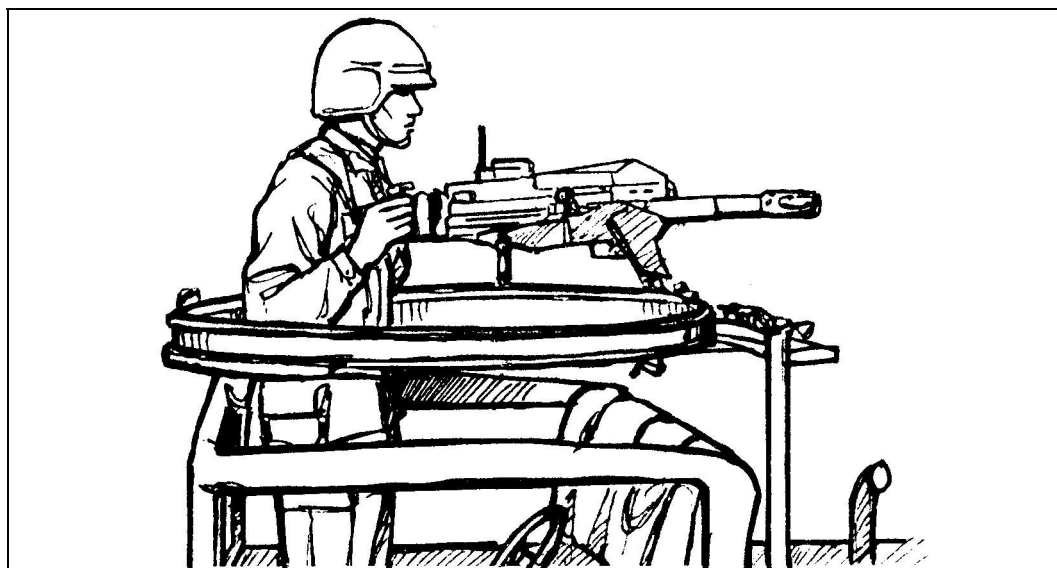

Figure 4-2. Standing position.
b. **Standing.** When the MK 19 is mounted on a vehicle, stand with both of your hands on the control grips and your thumbs resting on the trigger. Keep your elbows against your body, your body forward, and your chest against your hands to brace the gun (Figure 4-2).